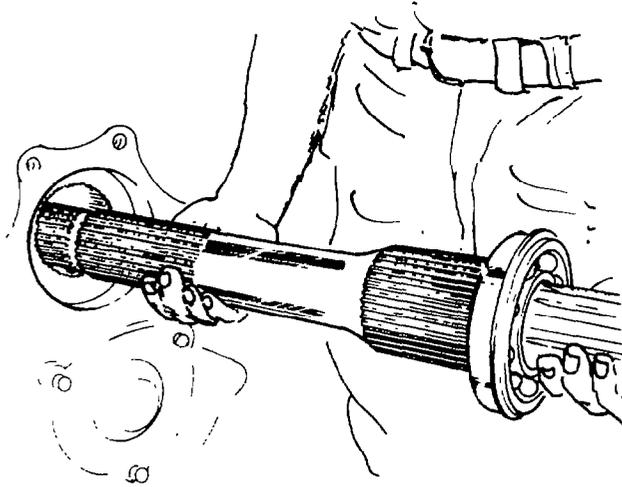

Fig. 178 — Removing Mainshaft
- o. Carefully remove the mainshaft from the case through the rear bearing opening (see fig. 178).